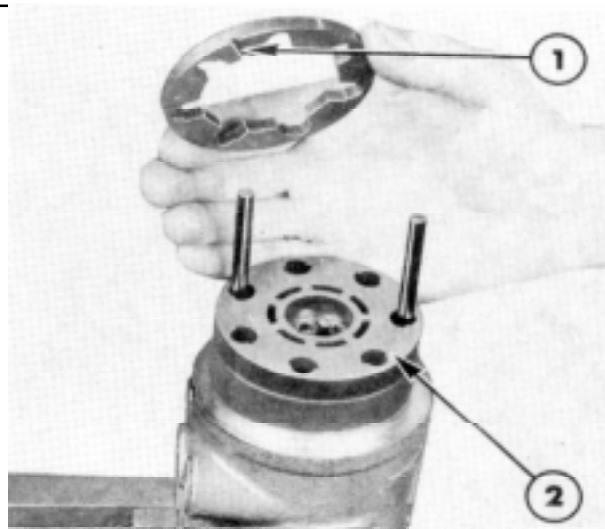

Figure 25
23. Install commutator ring over assembly posts and onto manifold make sure slot side is down. Reference Figure 25.